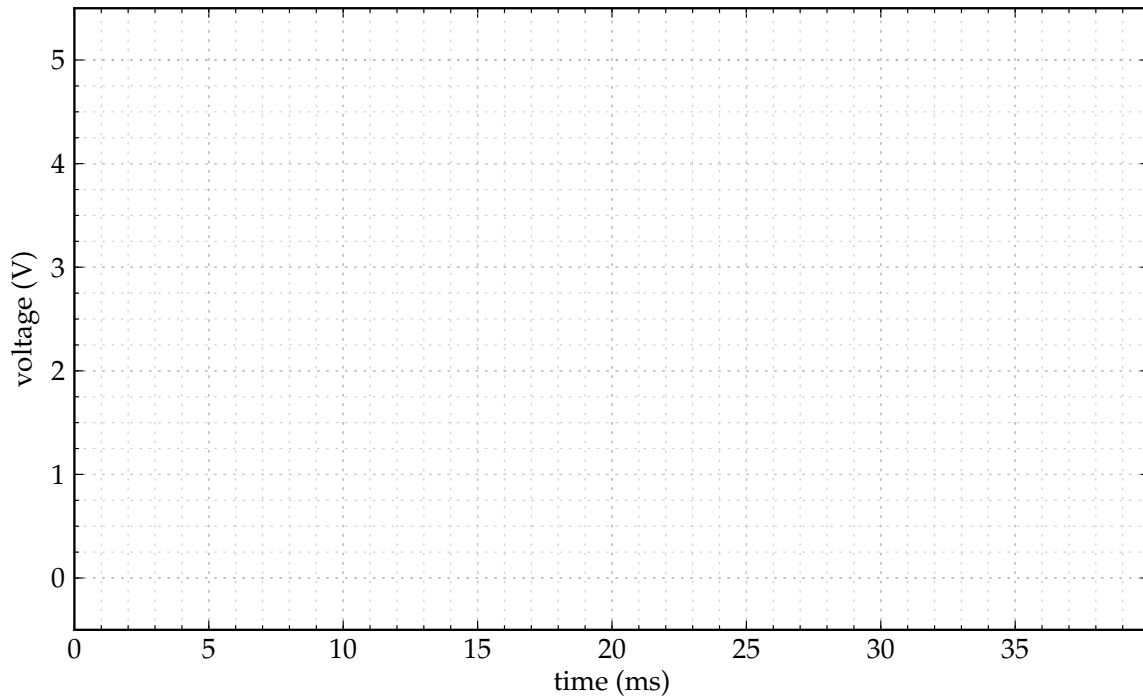

Figure 5: Relaxation oscillator plot for section 1
3. Draw your results from (1) and (2) as horizontal lines on the plot in figure 5.
6. Plot v_+ , v_- , and V_o on figure 5 as a function of time for this starting condition.
10. Plot v_+ , v_- , and V_o on figure 5.
11. Repeat (7) through (10) until you reach 40 ms.